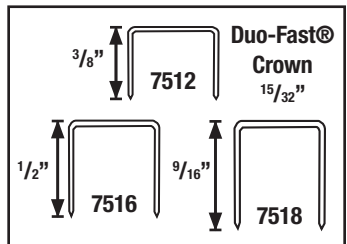

Figure 2
- This stapler works with Duo-Fast® 7512 $\frac{3}{8}$ " leg, 7516 $\frac{1}{2}$ " leg, or 7518 $\frac{9}{16}$ " leg crown staples or generics. See figure 2.